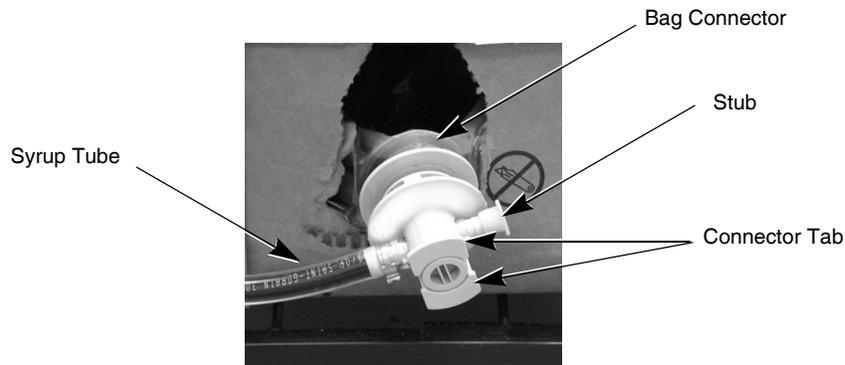

Figure 8.
Refer to Table 7 and Figure 8 when replacing a Type 2 BIB container.
6.	Re-install the QCD connector onto the new BIB connector by slipping it onto the connector and pushing the syrup hose and stub down toward the box.  ⚠ IMPORTANT: Button should be flush, as shown in Figure 8.